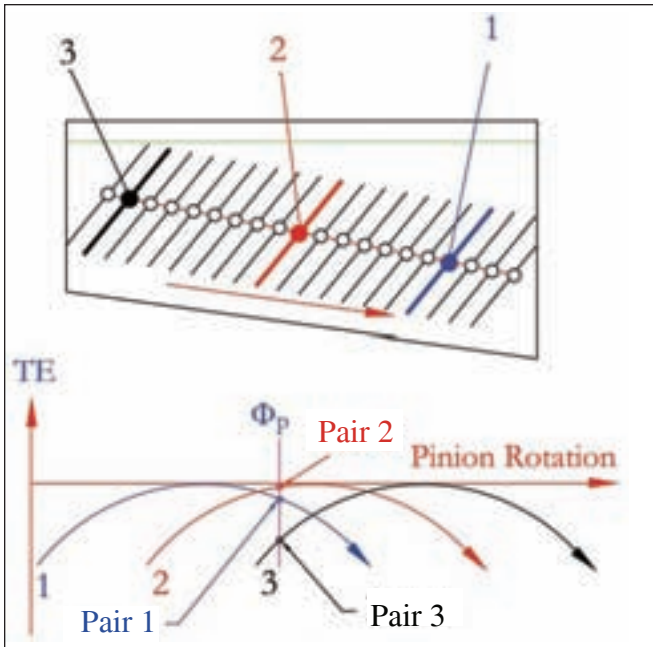

Figure 10—Identification of instant contact positions of multiple pairs of contact teeth.
(1) Tooth surface geometry is exactly defined and the TCA is executed. The TCA results provide bench contact pattern and the motion graph from which instant contact positions, and the number of adjacent meshing tooth pairs, can be identified. For example, Figure 10 shows the positions of contact lines respectively on three pairs of contact teeth at a given pinion rotation angle Φ_p .